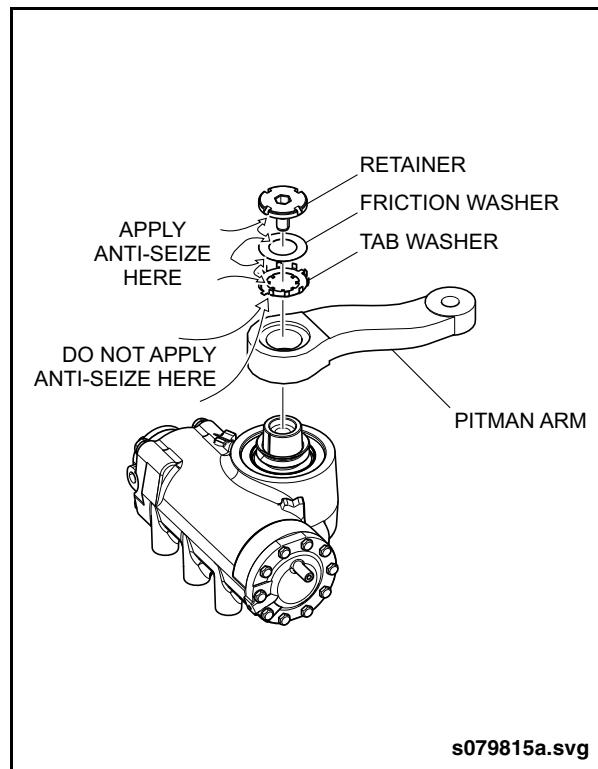

Fig. 3-27: Anti-Seize Compound Application
31. Apply anti-seize compound to threads of sector shaft, retainer and to both sides of friction washer. See "Fig. 3-27: Anti-Seize Compound Application" on page 41.